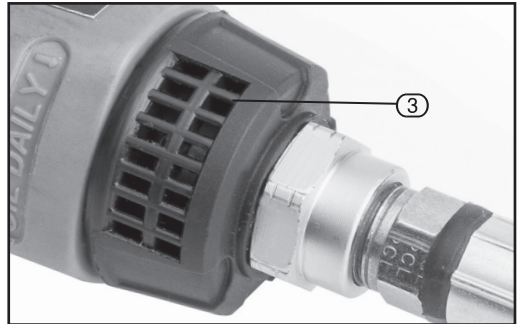

FIG.7
10.5 EXHAUST PORT - FIG. 7
- Adjust the exhaust port (3) away from yourself and ensure it does not agitate any dust in close proximity.